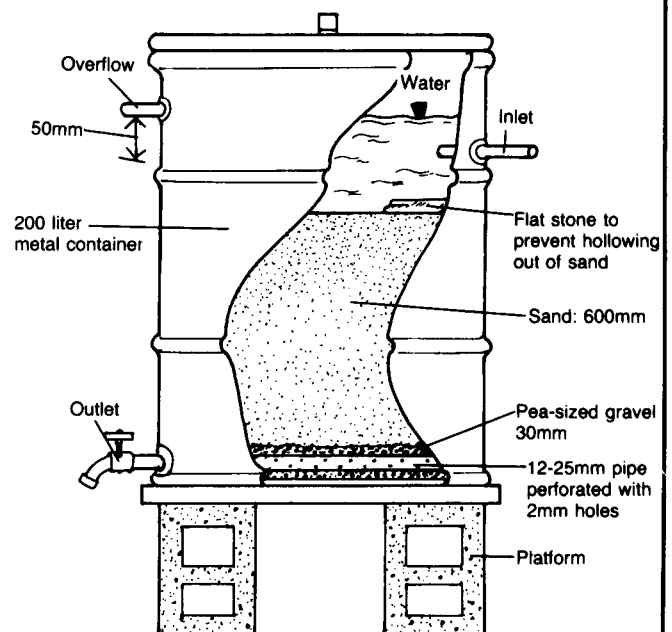

Figure 1. Household Sand Filter
1. Detailed plans of the sand filter to be constructed as shown in Figure 1.
Another way to make an outlet is to place a perforated pipe in the gravel layer at the bottom of the barrel as shown in Figure 1. Use a small diameter pipe, 12-25mm, and make small holes in it. This method may prove easier because leakage around the pipe is less likely.